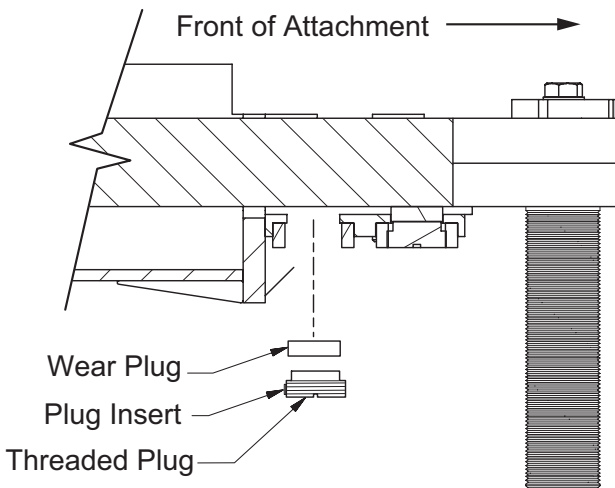

Figure 5-8, Wear Plugs
1. Remove the two threaded plugs located underneath the rack weldment. (Figure 5-8)